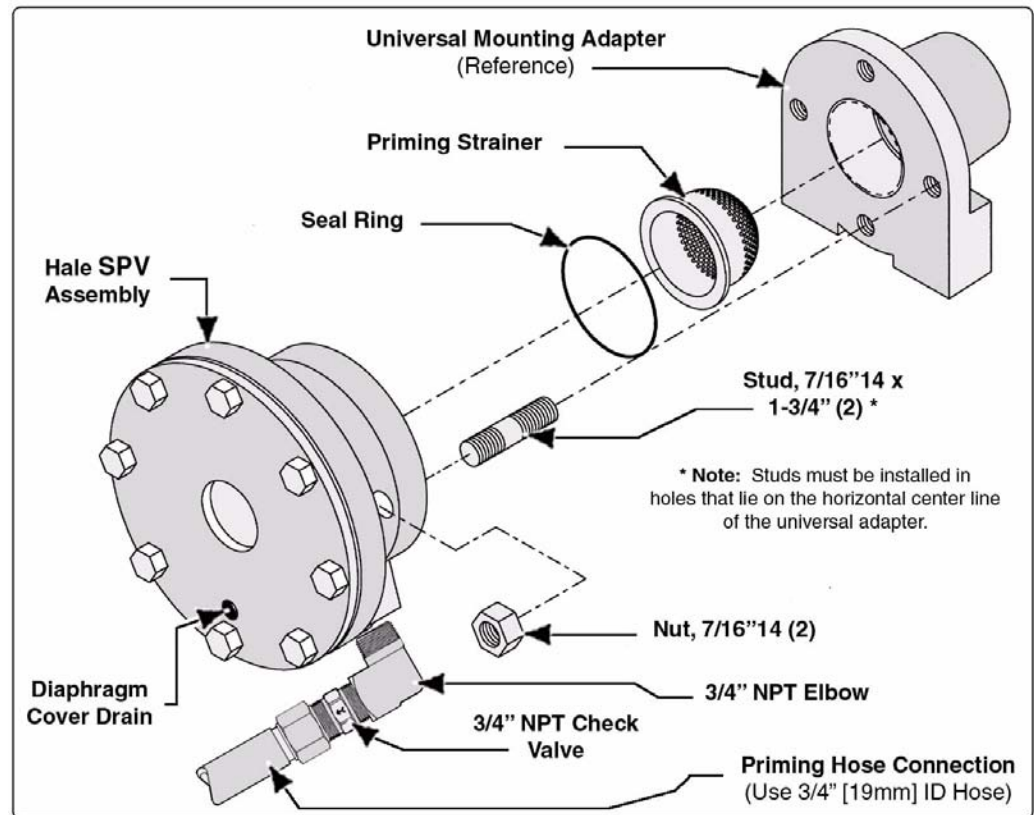

Figure 3-6: Typical SPV / Universal Adapter Pump Installation
When installing the Hale SPV assembly with a universal mounting adapter use the following procedures. (See Figure 3-6: “Typical SPV / Universal Adapter Pump Installation.”)
6. Insert strainer and seal ring in the universal adapter, then install Hale SPV on the universal adapter over the studs. (See Figure 3-6: "Typical SPV / Universal Adapter Pump Installation," on page 25.)